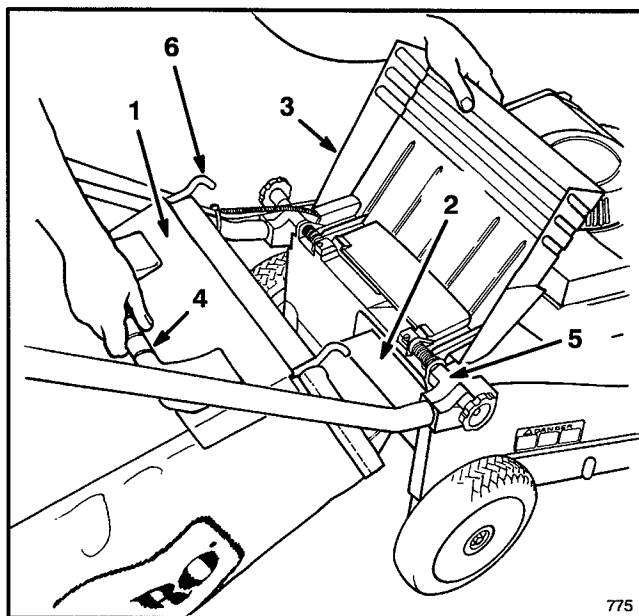
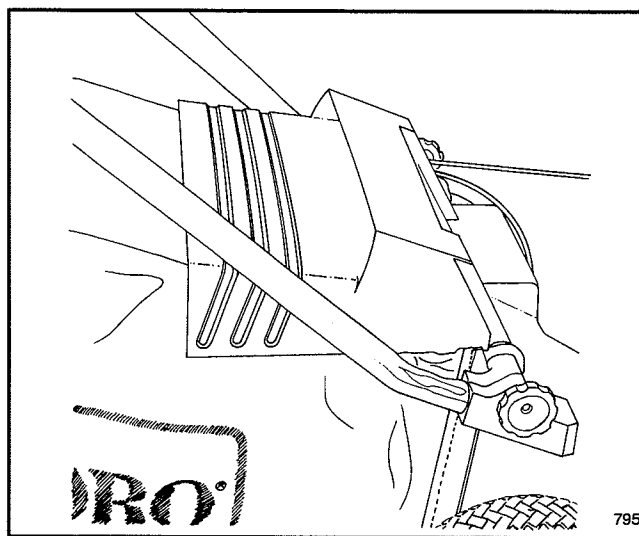

Figure 13
Figure 14
2. **INSTALLING BAG**—Raise discharge door, slide bag ramp attached to bag into discharge opening, and hook bag frame onto mounting bracket (Fig. 13). Allow discharge door to rest on top of bag (Fig. 14).